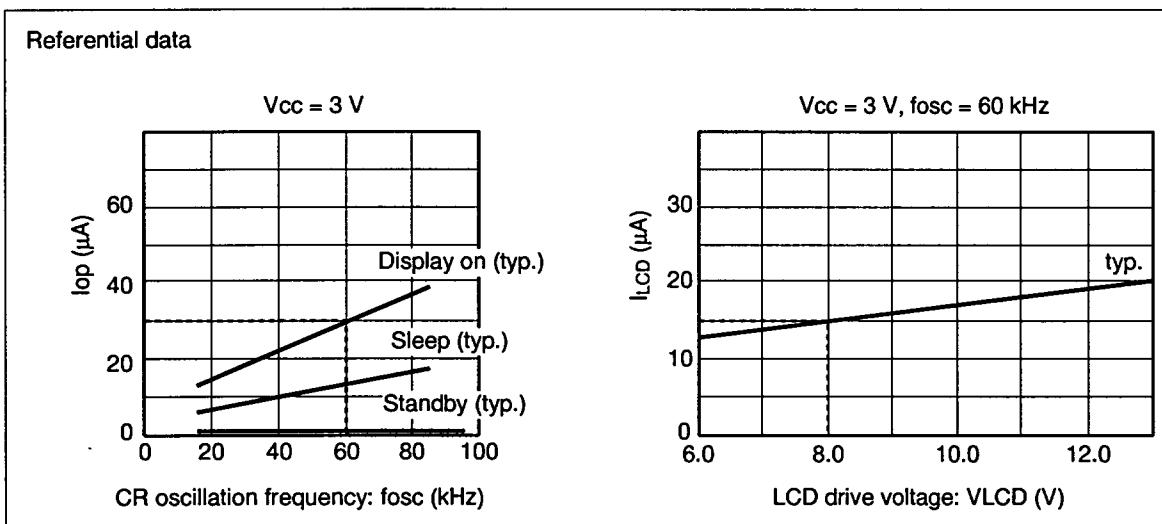

Figure 66 Relationship between the Operation Frequency and Current Consumption
11. The following shows the relationship between the operation frequency (fosc) and current consumption (Icc) (figure 66).